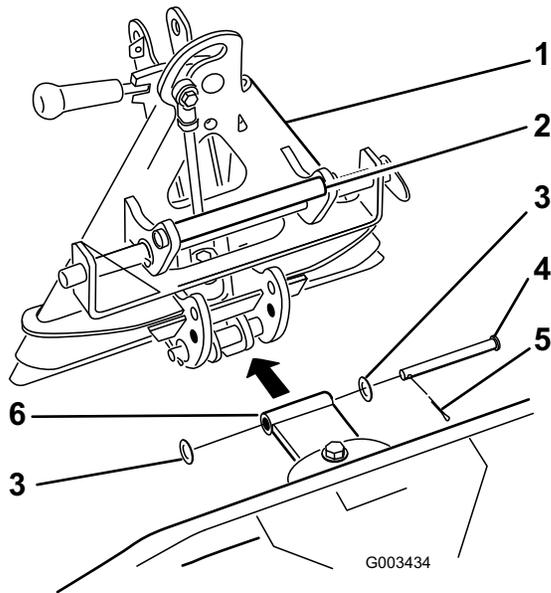

Figure 11
3. Connect the straight pivot bracket to the adapter as illustrated in Figure 11 with a clevis pin (1/2 x 4-1/2 inches), 2 washers (0.531 x 1.063), and a cotter pin.
Always lift and move the attachment using the handle on the back of the attachment adapter (Figure 11).